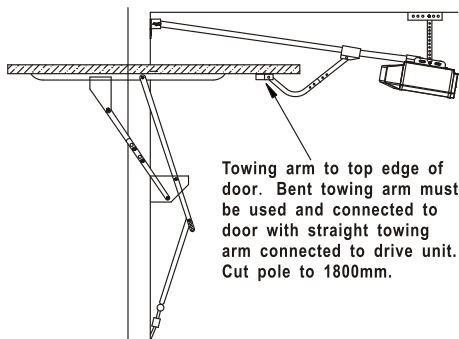
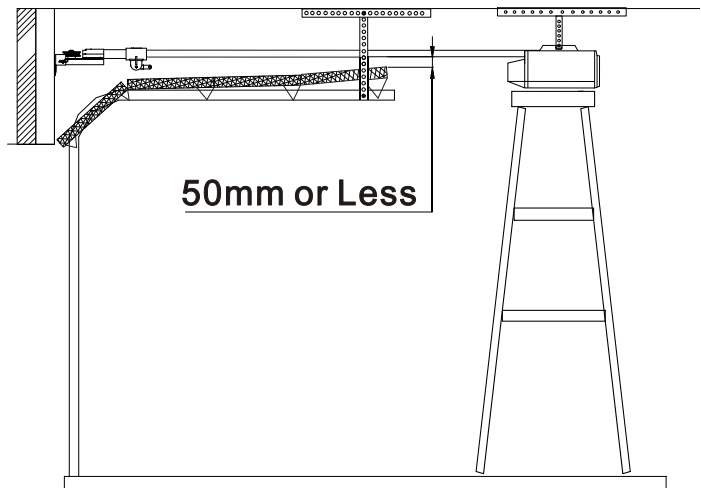

Fig 1B
Fig 7
- Raise the Power Head off the floor and rest it on a support high enough that the Drive Rail Assembly runs parallel to the ground. (Fig.7 depicts typical sectional type garage door installation for tip up door refer Fig.1B)
- Align the Drive Pole Assembly with the centerline of the garage door and securely fasten the Power Head to a structural member of the ceiling or roof using 2 lengths of vertically hung steel angle – normally 20mm x 20mm x 1mm. (Fig.7)
- Once mounted the Power Head and Drive Pole Assembly should sit parallel to the floor along both planes. (For Sectional and Track-Type Tilt Doors only. For Jamb-Type Tilt Door refer Fig 1B)
- a. With the garage door in the fully open position, the underside of the Drive Pole Assembly should be no more than 50mm above the highest arcing point of the garage door for its entire length. (Fig.7)